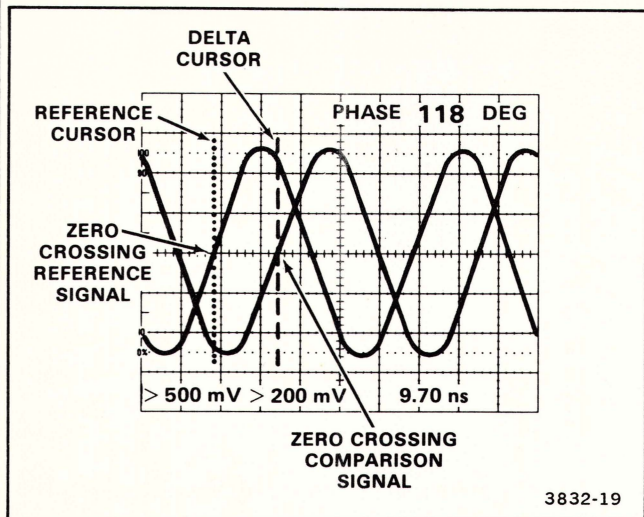

Figure 6-7. Phase difference between two time-related signals.
8. Use the Δ REF OR DLY POS control to align the Reference cursor with a zero-crossing of the reference signal (see Figure 6-7). Use the center horizontal graticule line as the zero reference for aligning the crossover point.